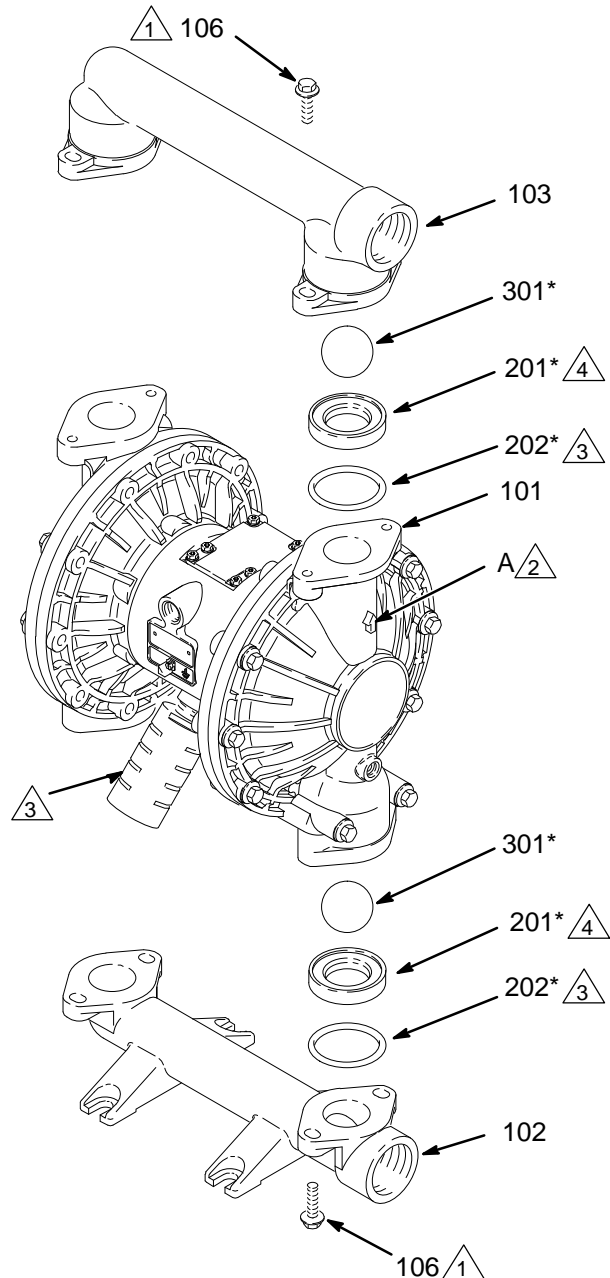

FIG. 10
3. Using a 13 mm socket wrench, remove the four bolts (106) holding the outlet manifold (103) to the fluid covers (101). See FIG. 10.
4. Remove the o-rings (202, *not used on some models*), seats (201), and balls (301) from the manifold.
5. Turn the pump over and remove the inlet manifold (102). Remove the o-rings (202, *not used on some models*), seats (201), and balls (301) from the fluid covers (101).
2. Reassemble in the reverse order, following all notes in FIG. 10. Be sure the ball checks are assembled **exactly** as shown. The arrows (A) on the fluid covers (101) **must** point toward the outlet manifold (103).